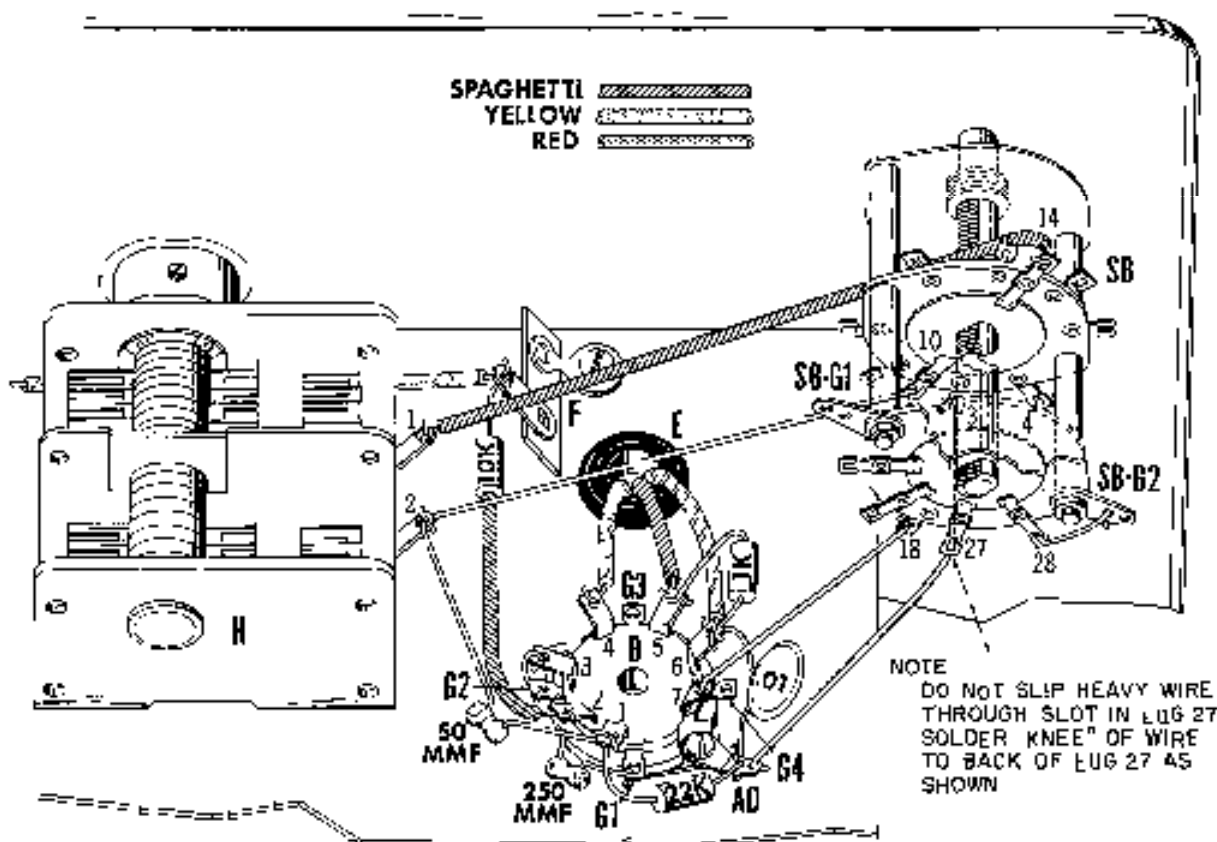

FIGURE 6
REFER TO FIGURE 6.
- () 16. Connect one end of a 7-1/2" length of yellow wire to F1 (Solder). Dress the wire to the left along the chassis as shown in Figure 6. Leave this end free.
- () 26 Slip a 4" length of large-diameter spaghetti on the pre-cut 4-1/8" length of heavy wire. Connect this wire from band switch terminal SB14 (Solder) to H1 (Solder). Be sure that the wire does not touch the rotor or any other part of the band switch. See Figure 6.
- () 27 Connect the pre-cut 2-9/16" length of heavy wire from H2 (Don't Solder) to SB10 (Solder). See Figure 6.
- () 29 Connect the pre-cut 1-7/8" length of heavy wire from SB16 (Solder) to D7 (Solder). See Figure 6.
- () 30 Refer to Fig. 6 and slip the short end of the pre-cut and pre-formed L shaped heavy wire into SB-3. Slip the other end into the lug hole on AD farthest from the mounting screw. Adjust the position of the wire so that the "knee" rests against back of SB-27. Now solder the three connection points — SB-3, SB-27 and AD.
- () 31 Slip a 1-3/4" length of thin bare wire through SB28 to SB4 (Solder). Connect the other end to ground lug SB-G2 (Don't Solder). Now solder SB28. See Figure 6.